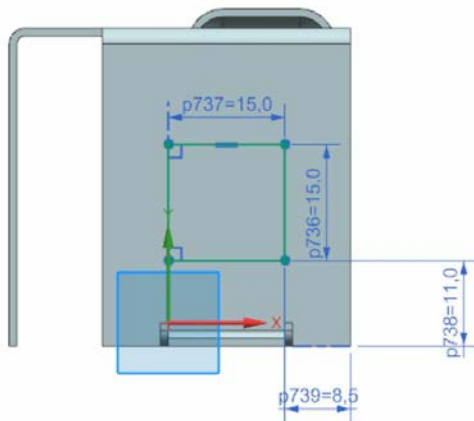

Figure 14-121 Profile of the drawn cutout
2. Select the right face of the model and draw the profile of the drawn cutout, as shown in Figure 14-121.